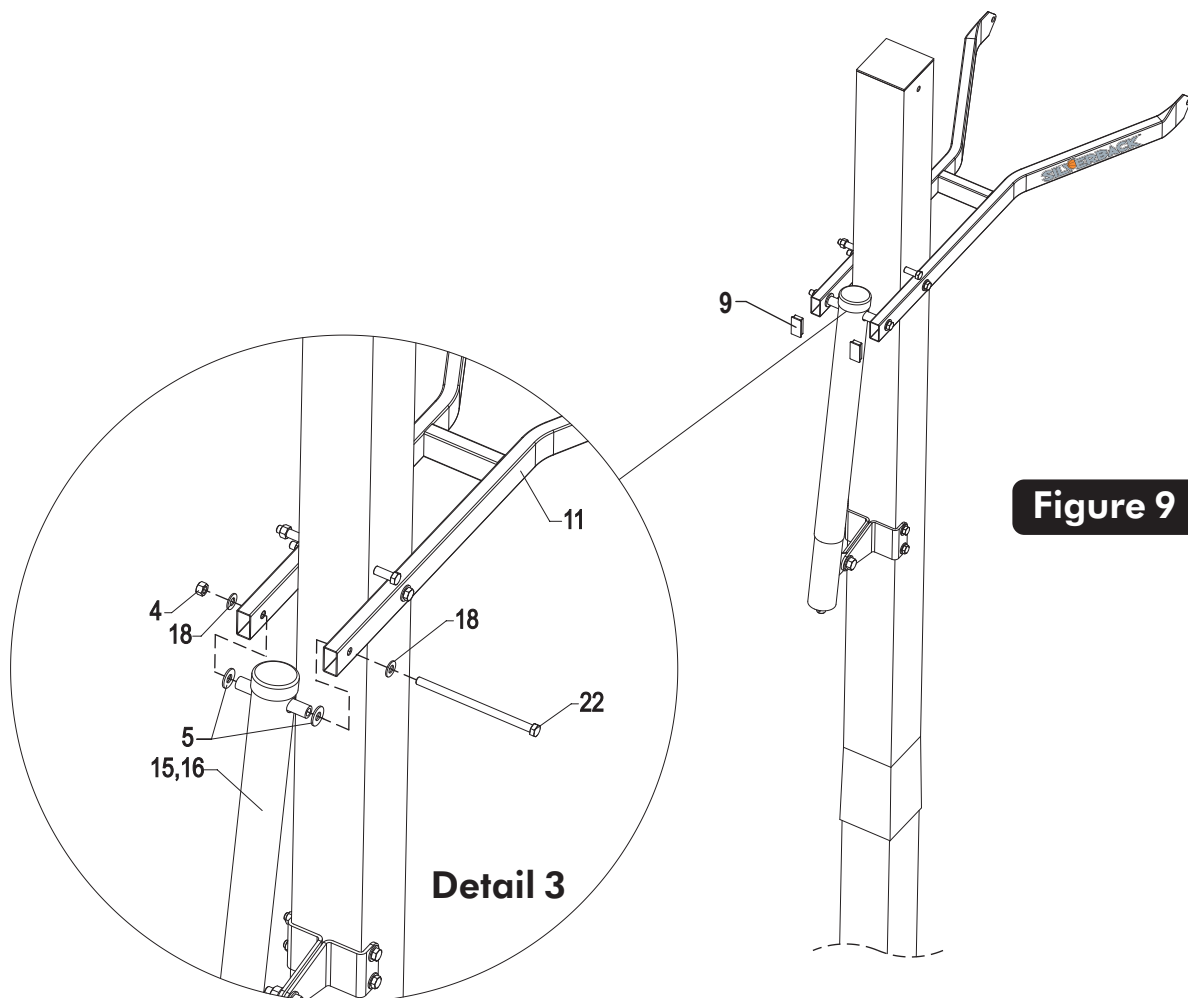

Figure 9
17. Secure Actuator (#16) to Lower Arms (#11) using one bolt (#22), two flat washers (#18), two plastic washers (#5) and one lock nut (#4). See **Figure 9** and **Detail 3**. Tighten both bolts (#22) securing Lower Arm (#11).
18. Insert Two Tube Plugs (#9) into open ends of Lower Arms (#11). It may be necessary to use a rubber mallet to tap them in. See **Figure 9**. **Note:** Tube plugs may be pre-installed by the factory.